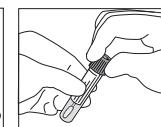

Fig. 4
4. Replace the cap on the tube and close tightly (Fig. 4).